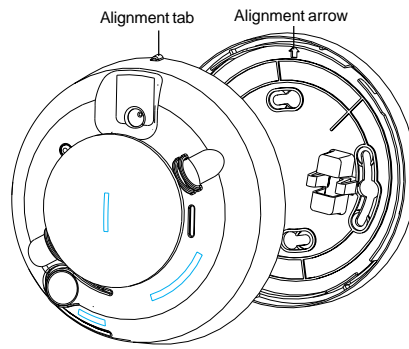

Figure 4 - Detector-to-Base Alignment
4. Attach the detector to the mounting base by lining up the alignment tab on the detector with the alignment arrow on the mounting base, then put the detector on the base and turn it clockwise about 15 degrees. The detector should snap into place. See Figure 4.